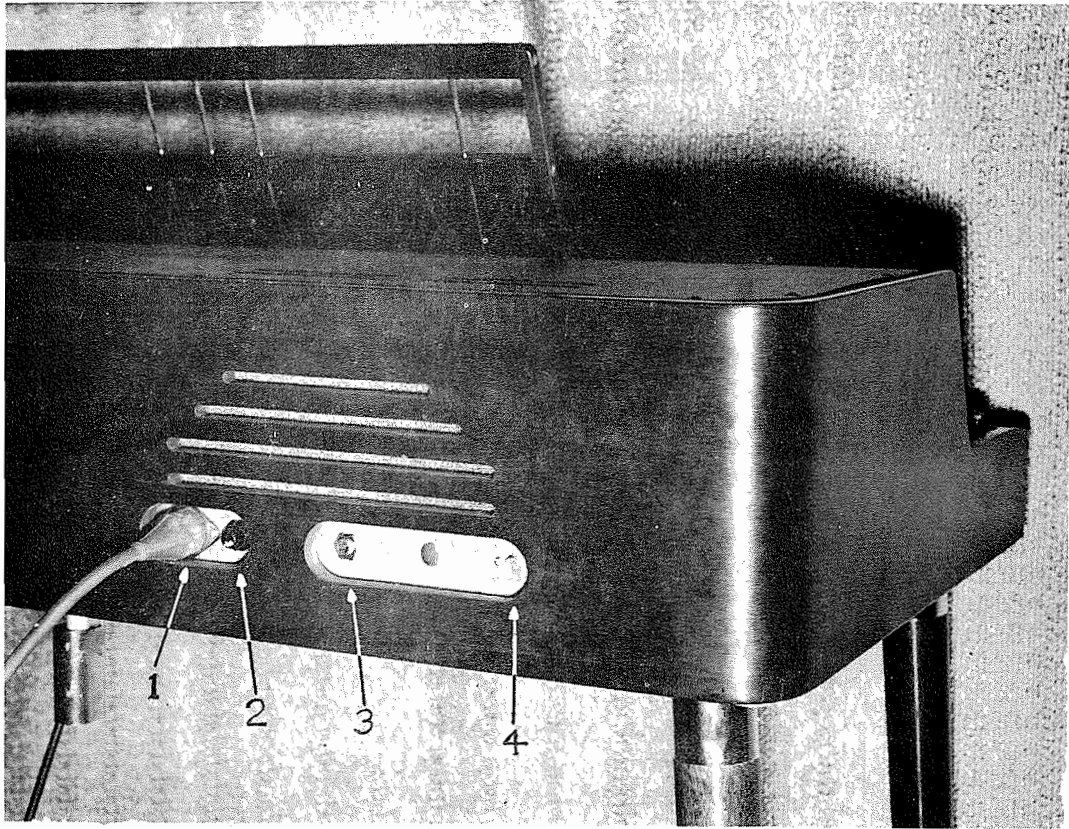

Fig. 120-H
5. Fuse: Check 1 amp fuse (Slo-Blo) as shown in Figure 120-H and 120-R.
6. A.C. cord: This cord is a one-piece molded line cord that fits the receptacle on the back of the case as shown in Fig. 120-H.